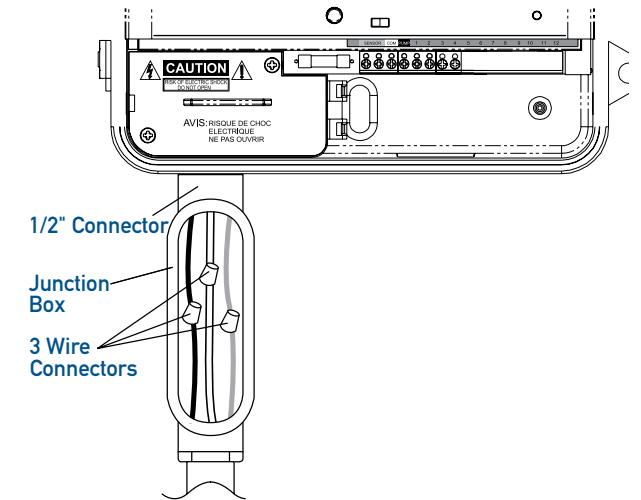

Figure 15: Using a Junction Box
- Connect the junction box and 3/4" Connector to the Timer (Junction box and Connector not included). [See Figure 15]